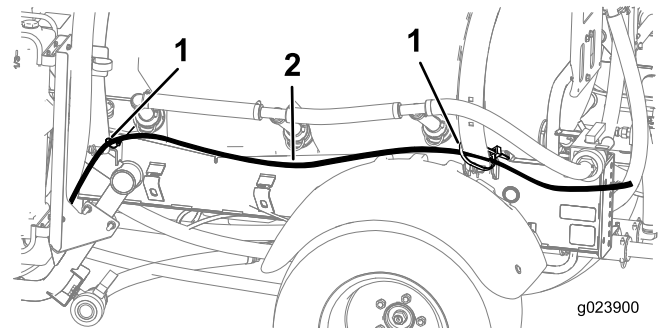

Figure 12
2. Route the 2 foam hoses from the booms forward to the side of the machine with the mounting bracket (Figure 12).